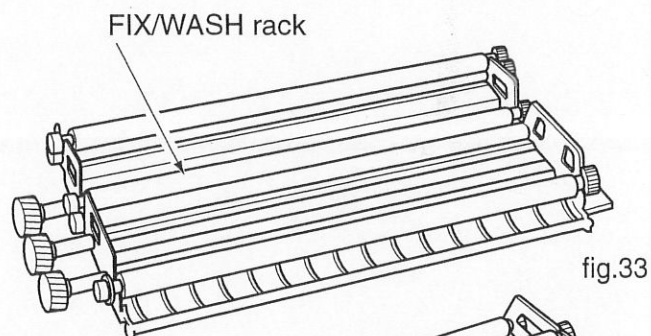

fig.33
- ① Remove the top cover.
- ② Remove the FIX/WASH rack first. (fig.33)